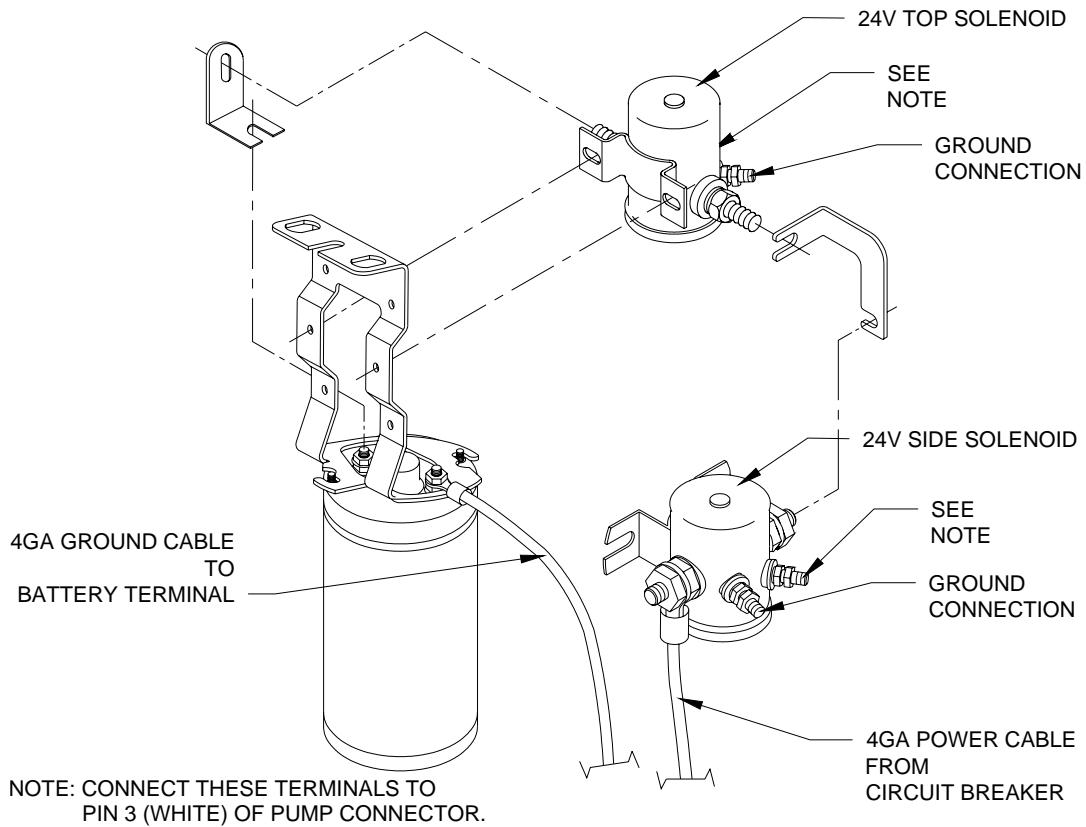

FIGURE 2-11: 24VDC DUAL SOLENOID WIRING
- 2) Refer to **Figure 2-11**. The ground cable is connected from the negative stud (-) on pump motor to the negative battery terminal.